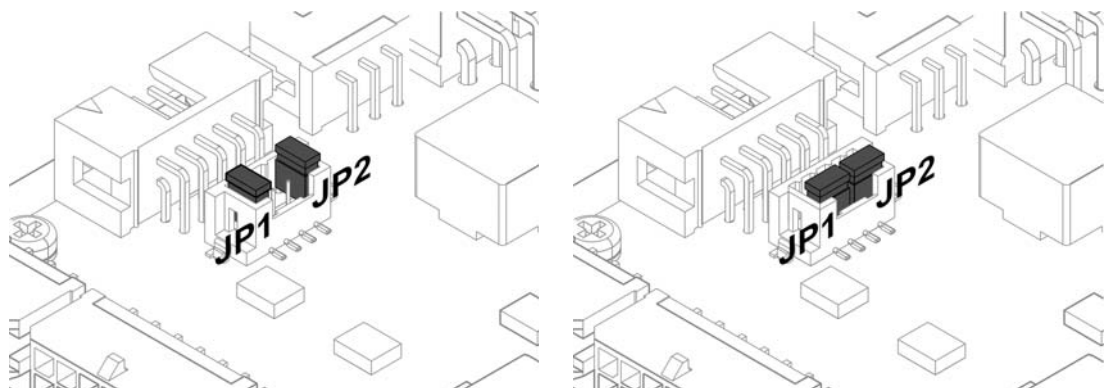

Figure 3-9 Jumpers JP1/JP2 – OPEN; Factory Setting (left) / CLOSED (right)
- 2) Set jumpers JP1 and JP2 to “closed” position (→Figure 3-9, right).